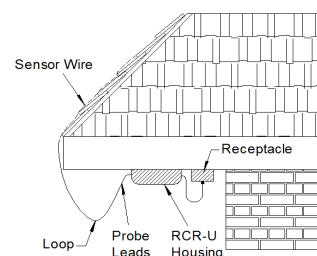

Fig.5 Sensor Wire Application without Gutter
6. For Roof without gutter- Lay the sensor wire along the triangular weave of the heating cable as shown on Fig. 5 and secure the main housing under the eave of the roof as shown on Fig. 5.